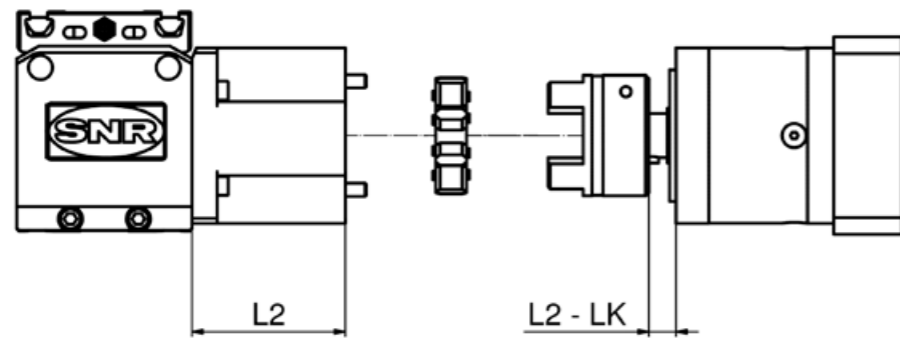

Figure 3.8 Mounting dimension
1. Insert the gearbox shaft ② into the coupling hub ① and tighten the coupling hubs with the tensioning screw ③.
2. Place the planetary gearbox ① on the coupling cone ④ and screw together with the fastening screws ⑤.
3. Insert this assembly into the coupling half with elastomer gear rim screwed to the drive head ⑥, and tighten them with the screws ⑦. Consider the dimensions LK and L2 (Figure 3.8) from Table 6.20, Chapter 6.2.3.2.